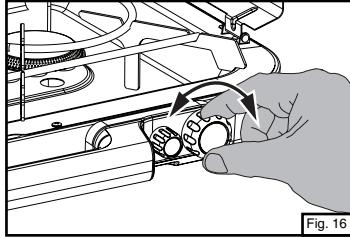

Fig. 16
- Adjust flame with burner valves. (Fig. 16) Flame should be blue with a hint of yellow on tips.